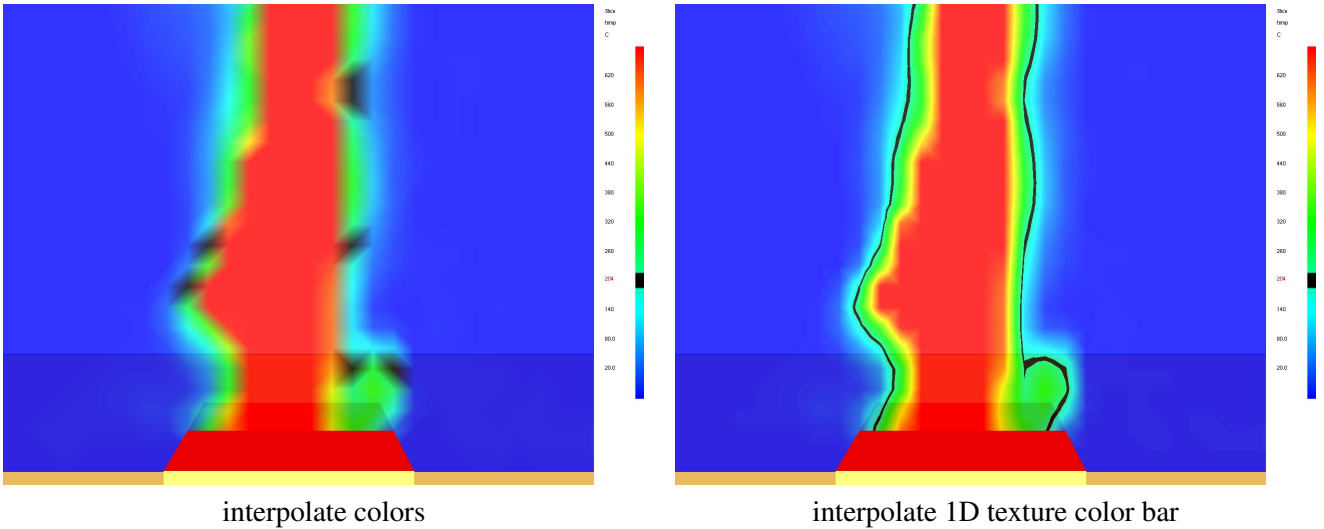

Figure 3.6: Slice file snapshots illustrating old and new method for coloring data.
**New data coloring** Smokeview uses a new more precise method for coloring data occurring in slice, boundary and PLOT3D files. This is illustrated in Figure 3.6. The colors are now crisper and sharper, more accurately representing the underlying data. This is most noticeable when selecting the colorbar with the mouse. As before this causes a portion of the colorbar to turn black and the corresponding region in the scene to also turn black. Now the black color is accurate to the pixel so this feature could be used to highlight regions of interest. Data is colored using 1D textures rather than coloring vertices.